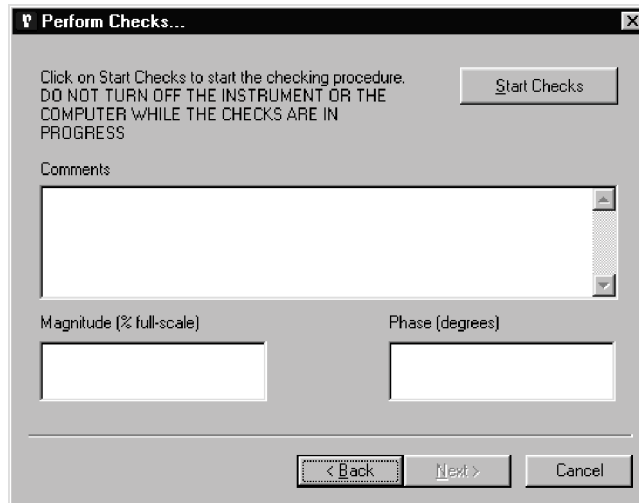

Figure 2-5, Initial Checks Procedure, Perform Checks Menu - Opening Screen
- 11) Click on the Initial Checks button to access the Perform Checks menu, shown below in figure 2-5.